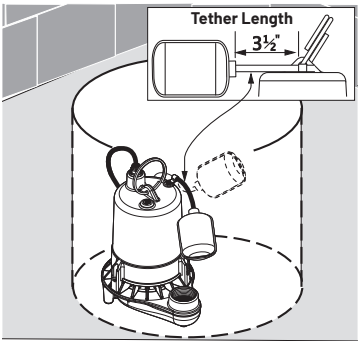

Figure 3
6. Place the pump in the sump, making sure that nothing interferes with switch operation. For tethered switch models, the tether length should be 3-1/2" (Figure 3).